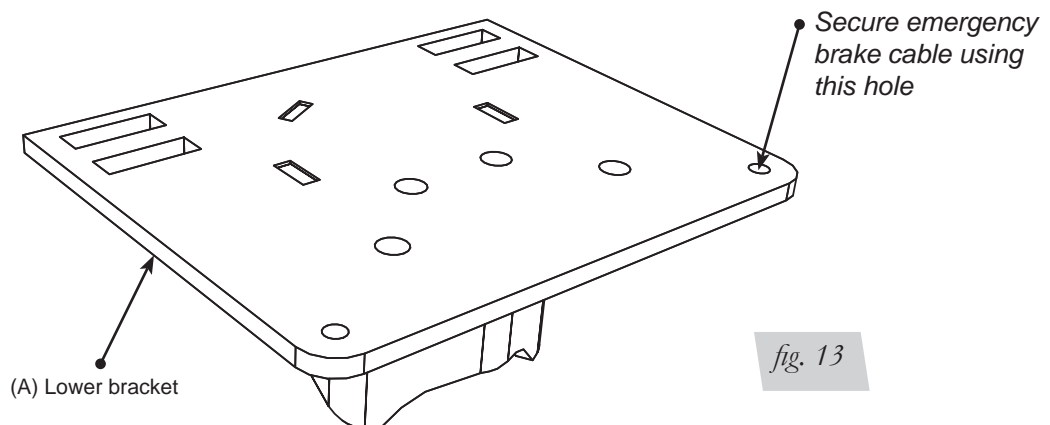

fig. 13
2. Secure the emergency brake cable to the bottom bracket with supplied wire tie using the hole in the corner of the lower bracket (fig. 13).